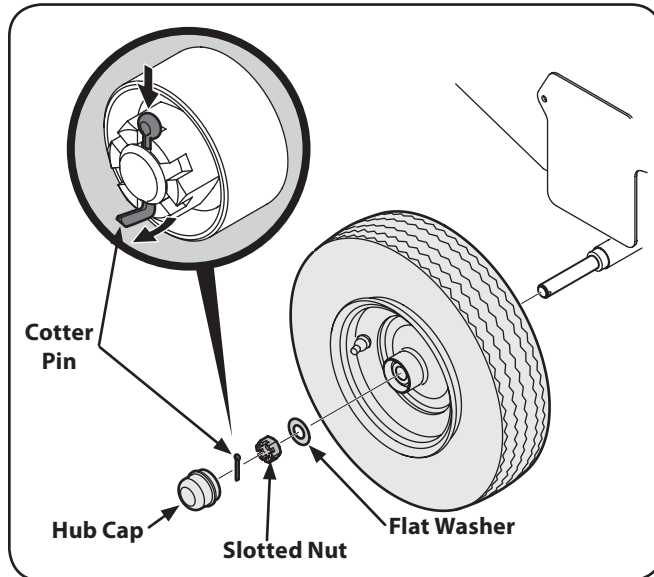

Figure 3-2
3. Remove the cotter pin, slotted nut and flat washer from each axle. See Fig. 3-2.
7. Insert the cotter pins through the slots in the nuts and holes in the axle and secure the assembly by bending both ends of the cotter pin out and then up against the end of the axle as shown to provide clearance for the hub cap. See inset Fig. 3-2.
8. Place the hub caps in position on the wheels and tap onto the axle with a rubber mallet. See Figure 3-2.